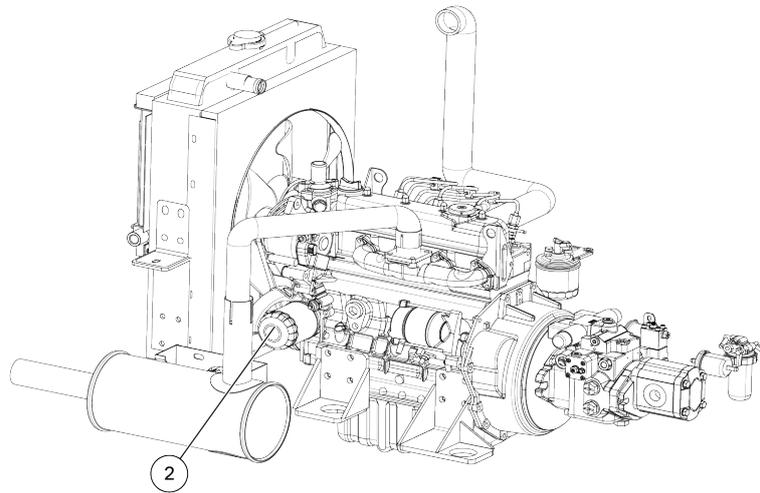

Figure 6-13 Oil filter
(1) Oil plug
Step 4: Clean the dust around the filter mounting seat, unscrew the oil filter (2) with a filter wrench as shown in Figure 6-13;